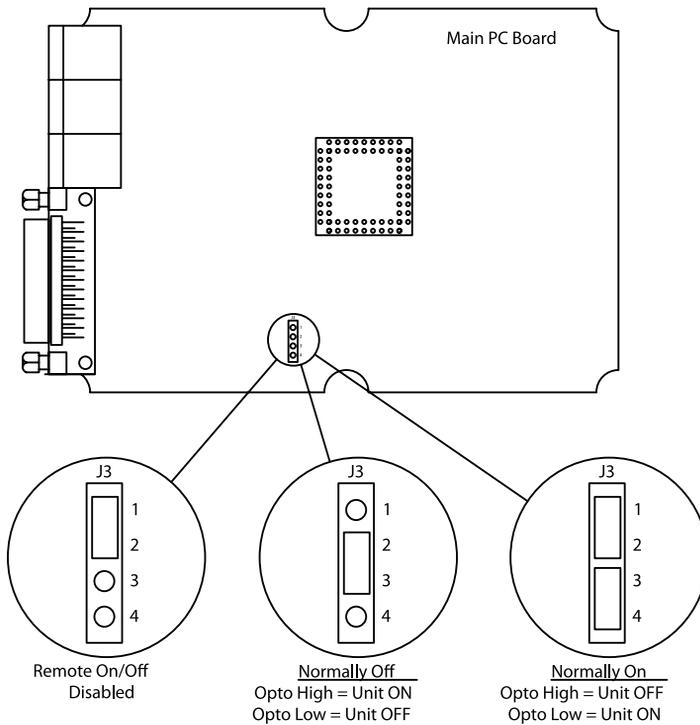

Figure 6. Jumper Position at J3 for Remote Control Operation
- E. **Remote On/Off Control** (if used). The Remote Display Module “Alarm Output” connector also provides for remote on/off control of the Power Supply. Remote on/off control is configured with a jumper on a pin header on the main Remote Display Module circuit board. The default configuration is with the remote control disabled. The remote control can be configured “normally off” or “normally on” by the jumper setting (see **Figure 6**). To access the jumper the cover will have to be removed from the Remote Display Module. Disconnect all input power, then remove the six screws securing the cover and slowly and carefully remove the cover.
Reposition the jumper to enable the remote control either “normally on” or “normally off”, as desired (see **Figure 6**). Then replace the cover and secure with the six screws.
When operating a Power Supply using the remote control circuit, power may be applied through the “Alarm Output” connector or the “Power In” connector on the end panel. If the “Power In” connector on the end panel is used, the “Power” switch must be set to the ON (1) position. Remote control is established by applying 24V $\overline{=}$ to the “Alarm Output” connector pins as specified in **Figure 6**. The user-applied 24V $\overline{=}$ drives a low current optoisolator on the main circuit board, turning the Power Supply on or off, depending on the configuration of jumper J3.